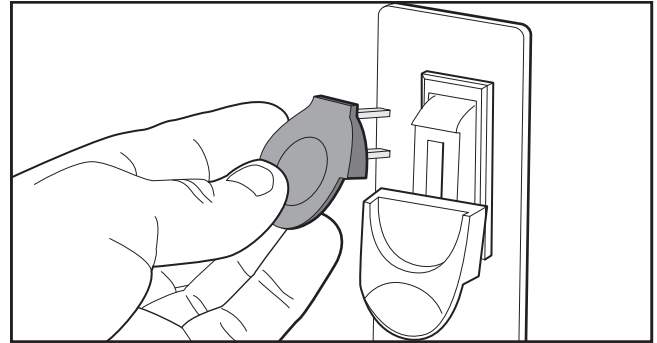

Figure 19. Removing key from paddle switch.
5. Remove switch-disabling key, as shown in **Figure 19**.